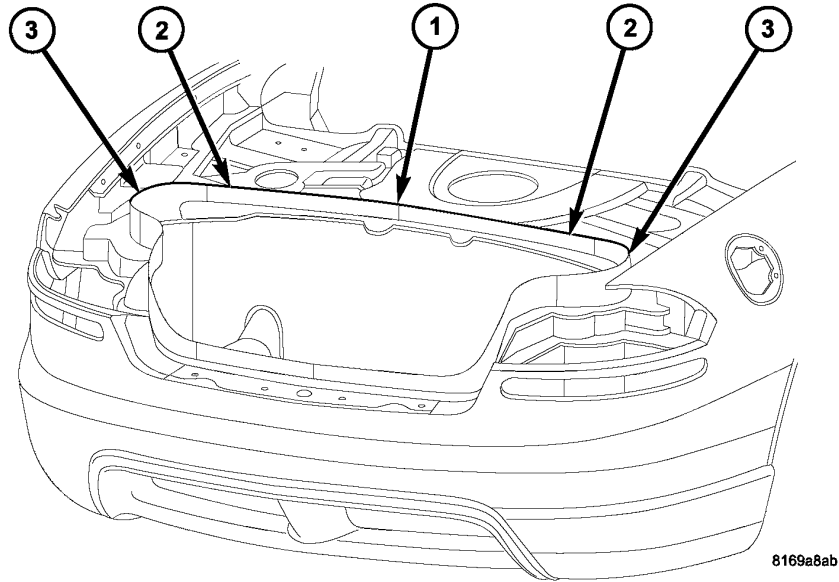

Fig. 1 TRUNK WEATHERSTRIP MOUNTING FLANGE REVISION
1. Remove trunk weatherstrip along the forward mounting flange (Fig. 1).
2. Mark the inboard edge of the forward trunk weatherstrip mounting flange with masking tape to outline the material to be removed, 3mm (0.118 in.) at the center of the flange and reduce to zero toward the outboard ends of the flange as illustrated, (Fig. 1).